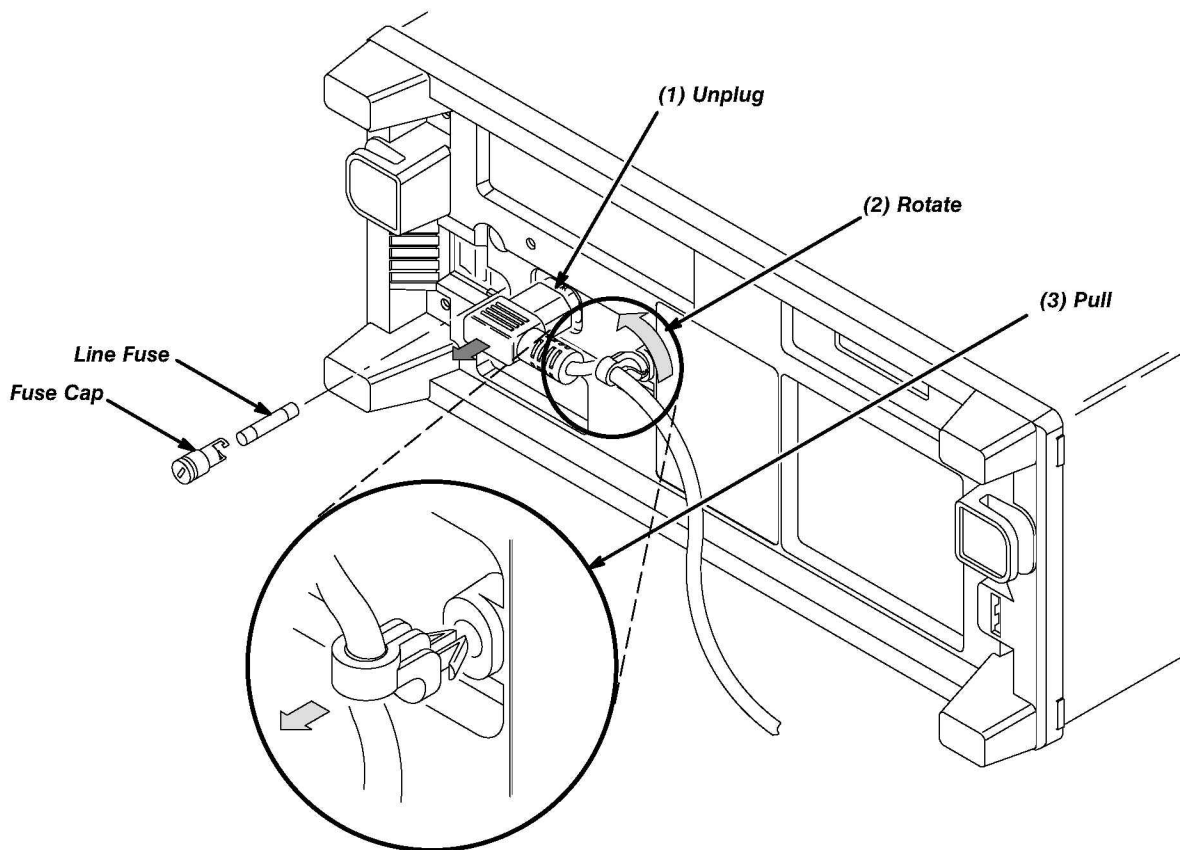

Figure 6-6: Line Fuse and Line Cord Removal
3. *Remove line fuse:* Find the fuse cap on the rear panel. (See Figure 6-6.) Now, remove the fuse cap by turning it counter clockwise using a flat-bladed screwdriver, and remove the line fuse. Reverse procedure to reinstall.
4. *Remove line cord:* Find the line cord on the rear cover. (See Figure 6-6.) Now, remove the line-cord retaining clamp by first unplugging the line cord from its receptacle. Next, grasp both the line cord and the retaining clamp and rotate it 90 degrees counter-clockwise. Pull the line cord and clamp away to complete the removal. Reverse procedure to reinstall.